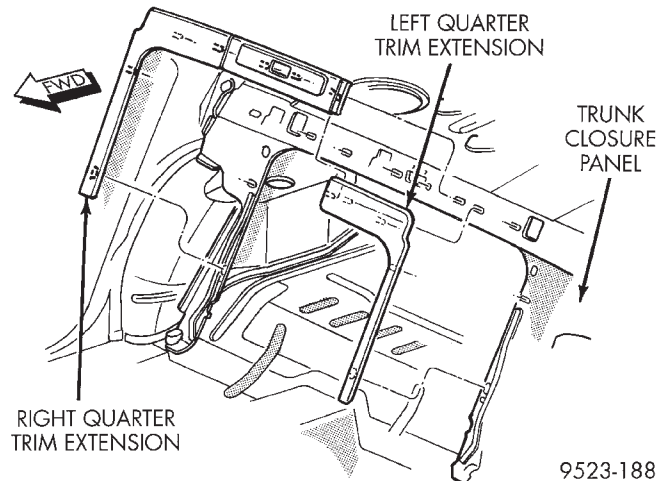

Fig. 73 Quarter Trim Extensions
- (1) Remove rear seat back side bolsters.
- (2) Disengage clips holding quarter trim extensions to trunk closure panel (Fig. 73).
- (3) Separate quarter trim extensions from vehicle.